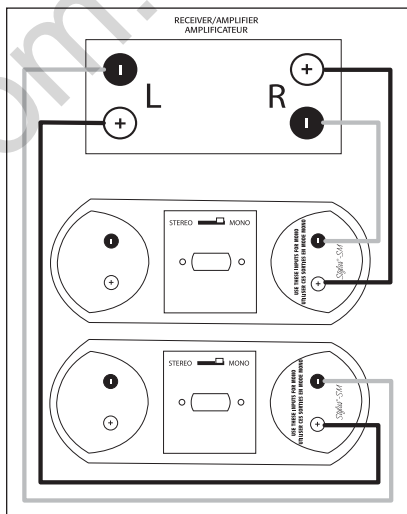

Fig. 5c Wiring two speakers for Wide Dispersion Stereo sound using the Mono inputs on each speaker
**Mono Input** (Wide dispersion stereo sound from two speakers) (Fig. 5c)